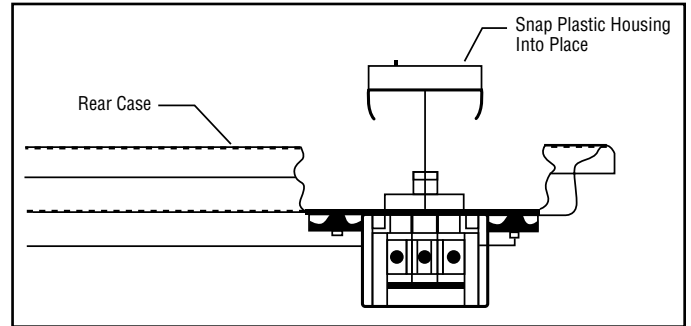

Figure 9
10. Place plastic bezel over the installed switch and push towards the switch until the tabs snap into place (see Figure 9).